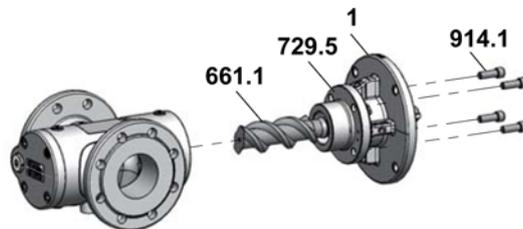

Fig 13
2. Pull the with drawble unit consisting of main screw **661.1**, bearing, seal and flange cover out of the pump housing, see Fig. 13.